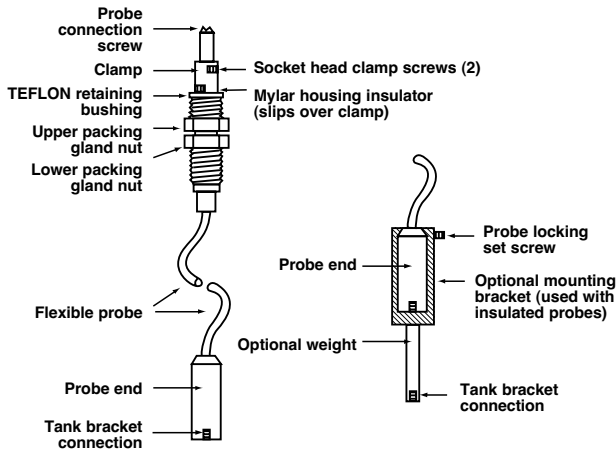

Figure 4
1. Unscrew probe from probe housing. Remove mylar housing insulator located over the clamp. See **Figure 4**.
4. Secure lower end of probe (or optional weight) to tank bracket if one is used. See **Figure 4**.